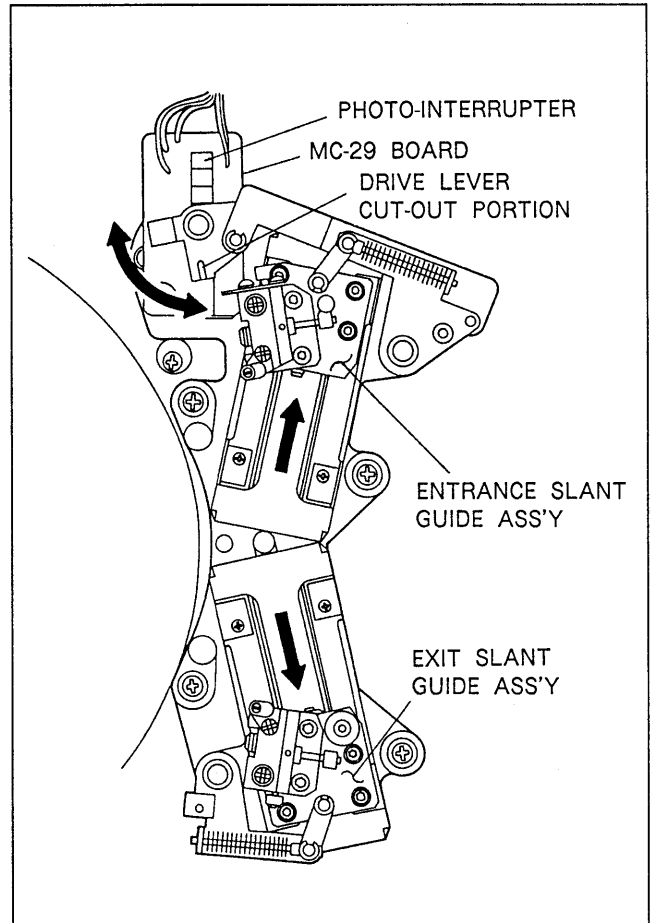

Fig. 6-4-2. Movement of Slant Guides
2. When the entrance and exit slant guides are closed as shown in Fig. 6-4-2, open the slant guide by inserting the tip of flat blade screwdriver into the cut-out portion of the drive lever.